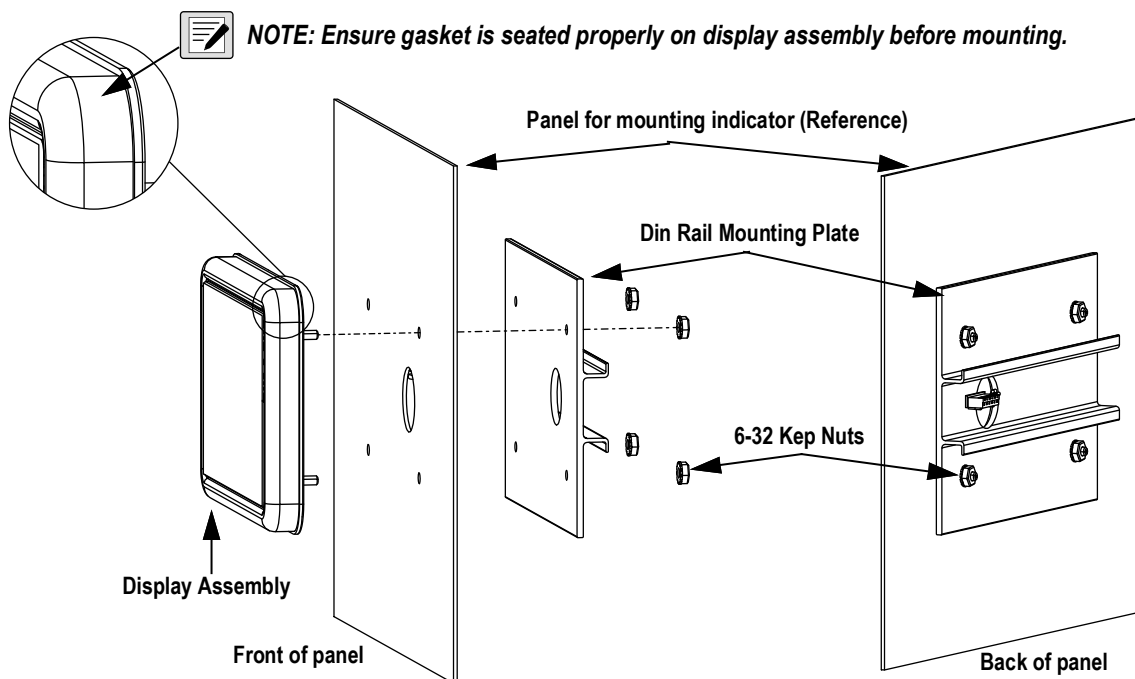

Figure 2-3. Mounting Display Assembly
3. Loosen and remove the four kee nuts securing the DIN rail and display assembly to the panel, see Figure 2-3 on page 20.